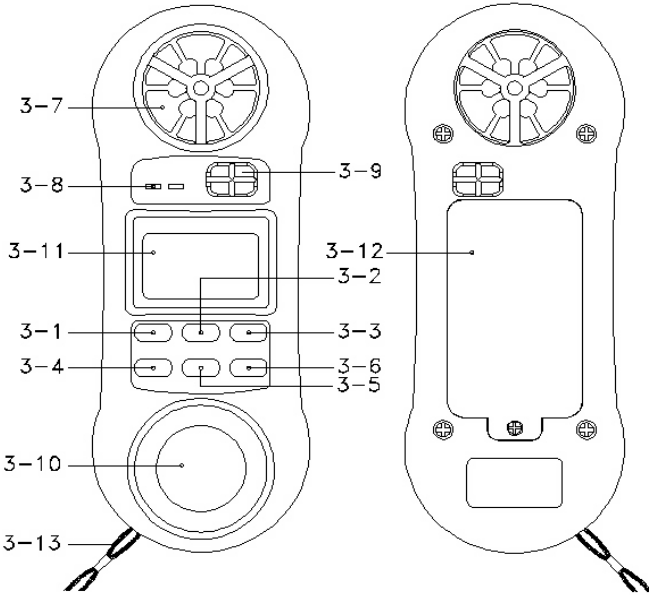

Fig. 1
- 1) Power on the instrument by pressing the " ON Button " (3-1, Fig. 1).
- 2) Select the Anemometer function by pressing " Function Button " (3-6, Fig. 1).
- 3) Press the " Unit/Zero Button " (3-4, Fig. 1) to select unit that you want and then face the " Anemometer Sensor " (3-7, Fig. 1) to the source of wind.
- 1) Power on the instrument by pressing the " ON Button " (3-1, Fig. 1)..
- 2) Plug a type K thermocouple probe in the " Thermocouple Input Socket " (3-8, Fig. 1).
- 3) Select the Temperature function by pressing " Function Button " (3-6, Fig. 1)
- 4) Press the " °C/°F Button " (3-5, Fig. 1) to select °C or °F unit.
- 2) Select the Relative Humidity function by pressing " Function Button " (3-6, Fig. 1).
- 2) Select the Light Measurement function by pressing the " Function Button " (3-6, Fig. 1) until the light value is displayed. The light display digits are oriented 180° from the other function displays for easy exposure and output reading of the light sensor.
- 3) Press the " Lux/Ft-cd Button " (3-5, Fig. 1) to select measuring unit " Lux " or " Ft-cd ".
- * For best results zero the light sensor prior to use in a dark environment. Placing the light sensor end of the meter under a desktop or flat surface so as to block any light can accomplish this. Then press the " Unit/Zero Button " (3-4, fig. 1) to set the meter indication to zero.
- 2) Select the Air Flow function by pressing " Function Button " (3-6, Fig. 1) until the display show unit of CMM or CMM.
- * Air flow unit " CFM " or " CMM " can be select by pressing the " CFM/CMM Button " (3-4, Fig. 1)
- * Area size can be set by by pressing the " Area-Set Button " (3-5, Fig. 1), then use the
- ▲ Button (3-5, Fig. 1)
- ▼ Button (3-6, Fig. 1)
- ◀ Button (3-4, Fig. 1)to select the desired area size.
- 4) Use the hand to hold the meter, face the " Anemometer Sensor " (3-7, Fig. 1) to the measured wind. In the same time the air flow value (CMM, CFM) will show on the LCD display.
Whenever press the " Hold Button (3-2, Fig. 1) " will freeze the current reading value with a "HOLD" symbol on the display.
- 1) The Data Record function records & displays the maximum and minimum reading values. Start the Data Record function by pressing the " REC Button " (3-3, Fig. 1) once.
- (a) Press the " REC Button " (3-3, Fig. 1) once and the " Max " symbol along with the maximum value will appear on the display.
- (d) Clear the Max./Min. value recorded by pressing the " Hold Button " (3-2, Fig. 1) once. Previous recorded Max./Min. value will be given up and then revert to the REC. function keep on recording.
- 2) Open the " Battery Compartment / Cover " (3-12, Fig. 1) and remove the battery.